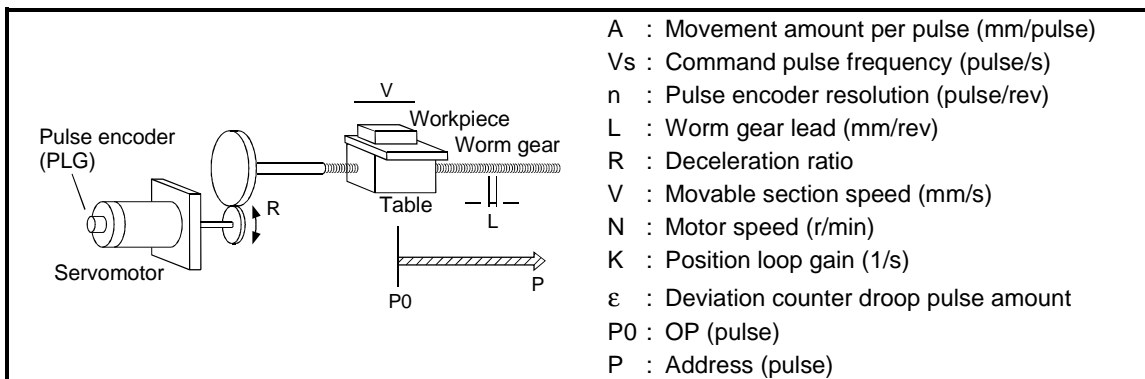

Fig. 1.4 System using worm gears
- (a) In the system shown in Fig. 1.4, the movement amount per pulse, command pulse frequency, and the deviation counter droop pulser amount are determined as follows: